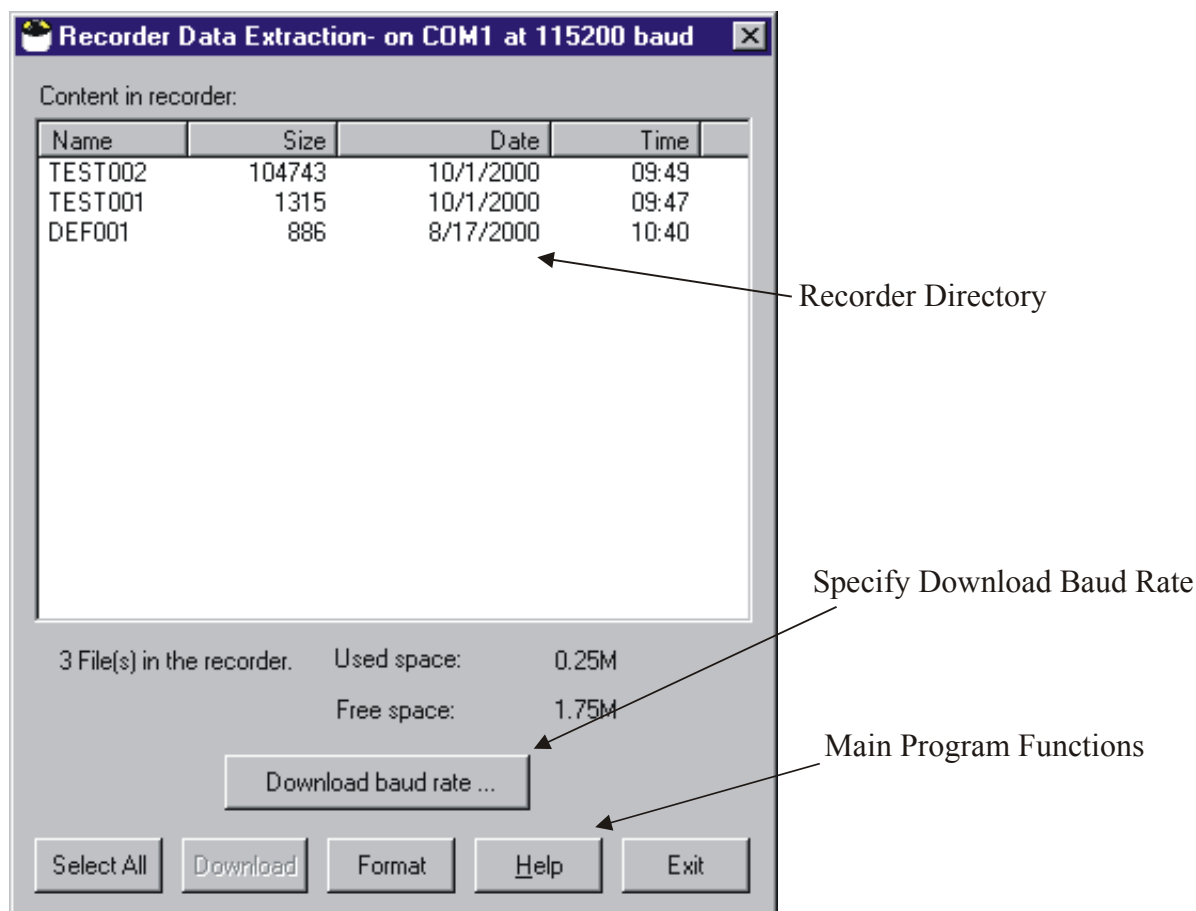

Figure 3 – SonRec (ViewArgonaut) Recorder Download Window
- Upon execution, *SonRec* will establish communication with the Argonaut and download the recorder's directory (Figure 3).
The *SonRec* window (Figure 3) shows the following.